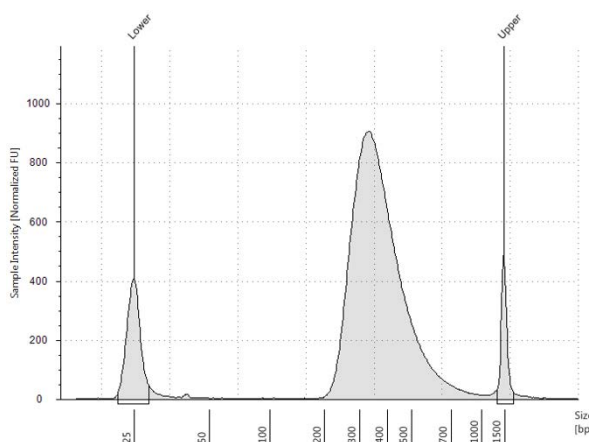
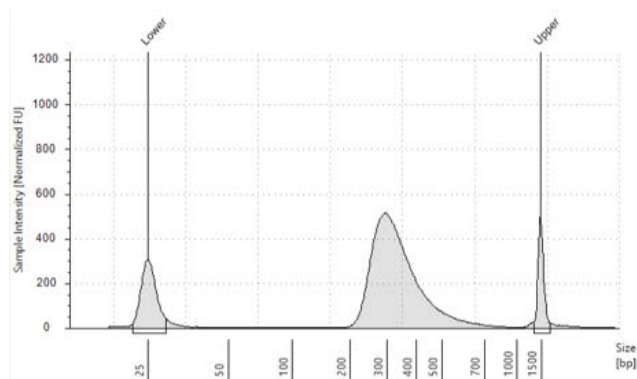
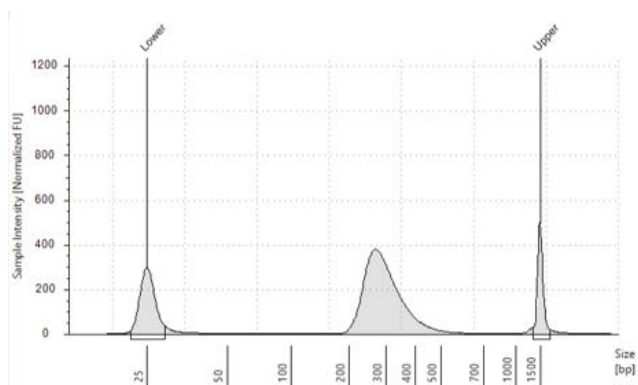

Figure 7 Post-capture library prepared from a high-quality gDNA sample analyzed using a High Sensitivity D1000 ScreenTape assay.
Figure 8 Post-capture library prepared from a typical FFPE gDNA sample analyzed using a High Sensitivity D1000 ScreenTape assay.
Figure 9 Post-capture library prepared from a low-quality FFPE gDNA sample analyzed using a High Sensitivity D1000 ScreenTape assay.
- 3 Verify that the electropherogram shows the peak of DNA fragment size positioned between 200 and 400 bp. Sample electropherograms are shown in Figure 7 (library prepared from high-quality DNA), Figure 8 (library prepared from medium-quality FFPE DNA), and Figure 9 (library prepared from low-quality FFPE DNA).